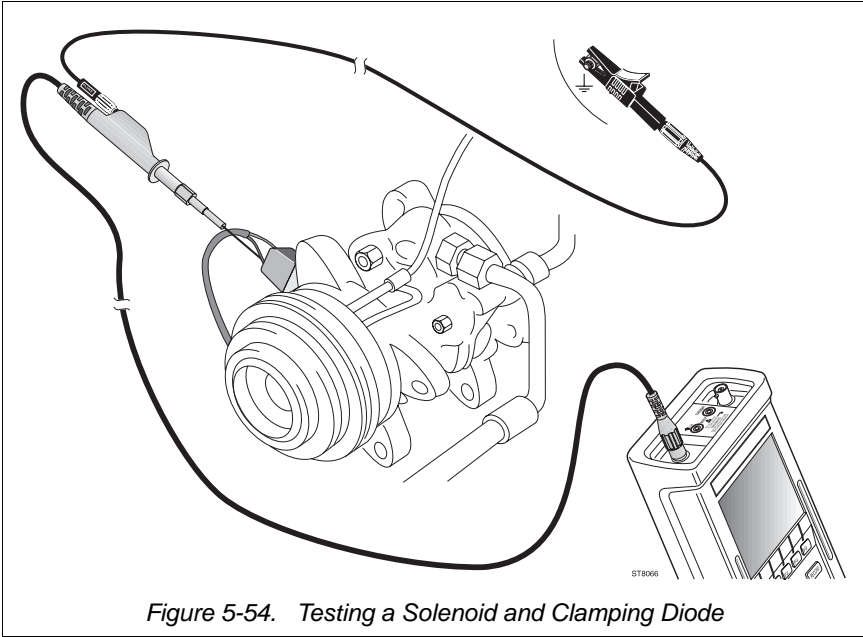

Figure 5-54. Testing a Solenoid and Clamping Diode
- ①
- ②
- ③
- ④ Connect the test leads as displayed by the test tool's Connection Help and shown in Figure 5-54.
- ⑤  Starts the Solenoid and Clamping Diode test.